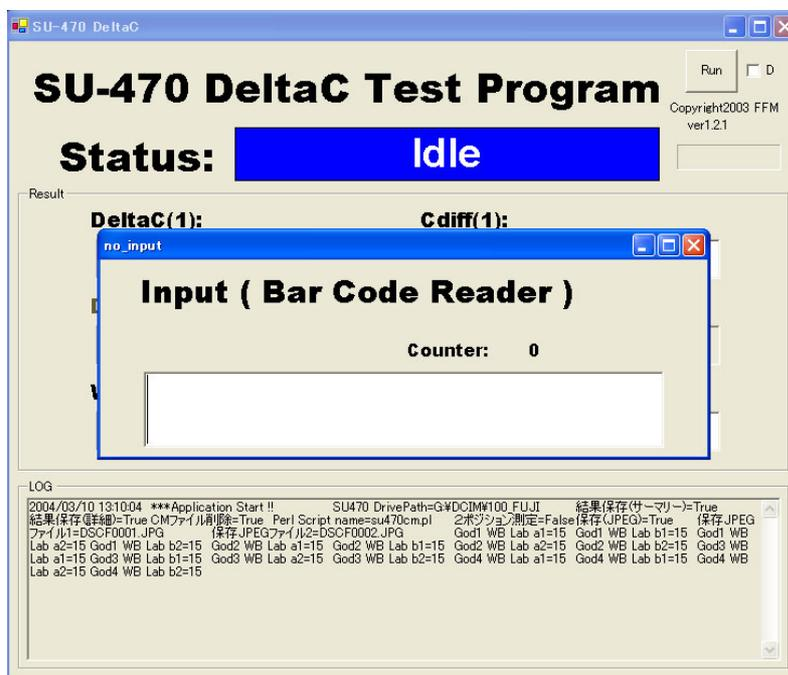

Fig.49
---> The test program [su-470 Deltac Test Program (Fig.49)] is starts up.